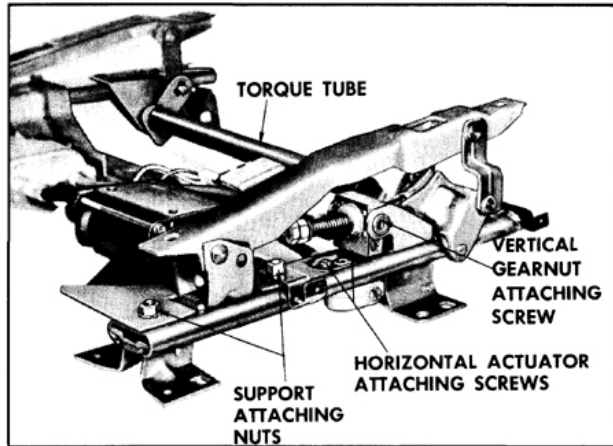
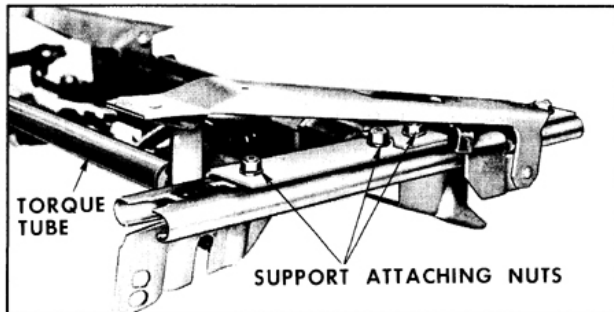

Fig. 16-390 Outboard Seat Adjuster
Fig. 16-391 Inboard Seat Adjuster
5. Remove nuts securing motor and transmission support to adjuster assembly (Fig. 16-390 for outboard adjuster and Fig. 16-391 for inboard adjuster).
2. Using a clutch-type screwdriver or other suitable tool, remove shoulder screws securing linkage to vertical gearnut. (Fig. 16-390)
5. Remove screws securing horizontal actuator assembly to adjuster lower track; then remove actuator from adjuster assembly. (Fig. 16-390)